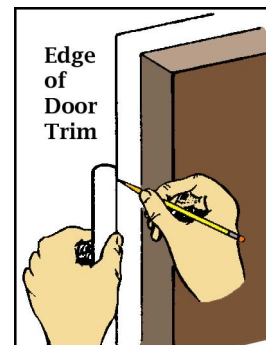

Figure 3
- **Step 5** As shown in Figure 3, using the straight edge of a steel ruler, the trim around a door, or the 12" length of brass angle, draw lines upward from the bottom of the tube for a distance of 1.75" for the fins, and 2.25" for the launch lug.